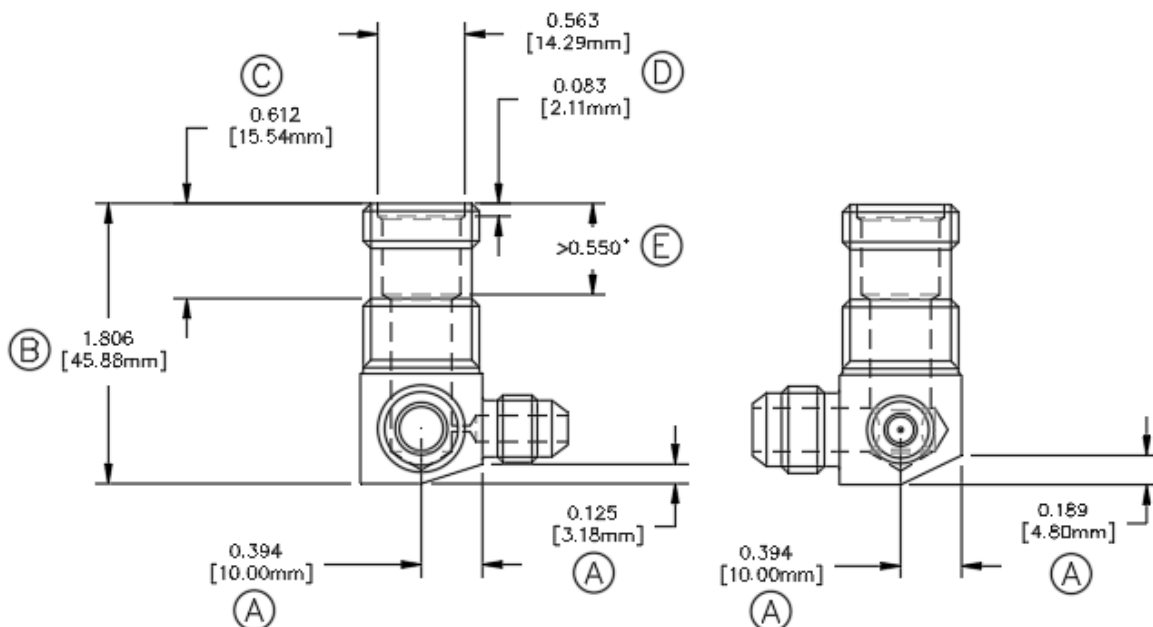
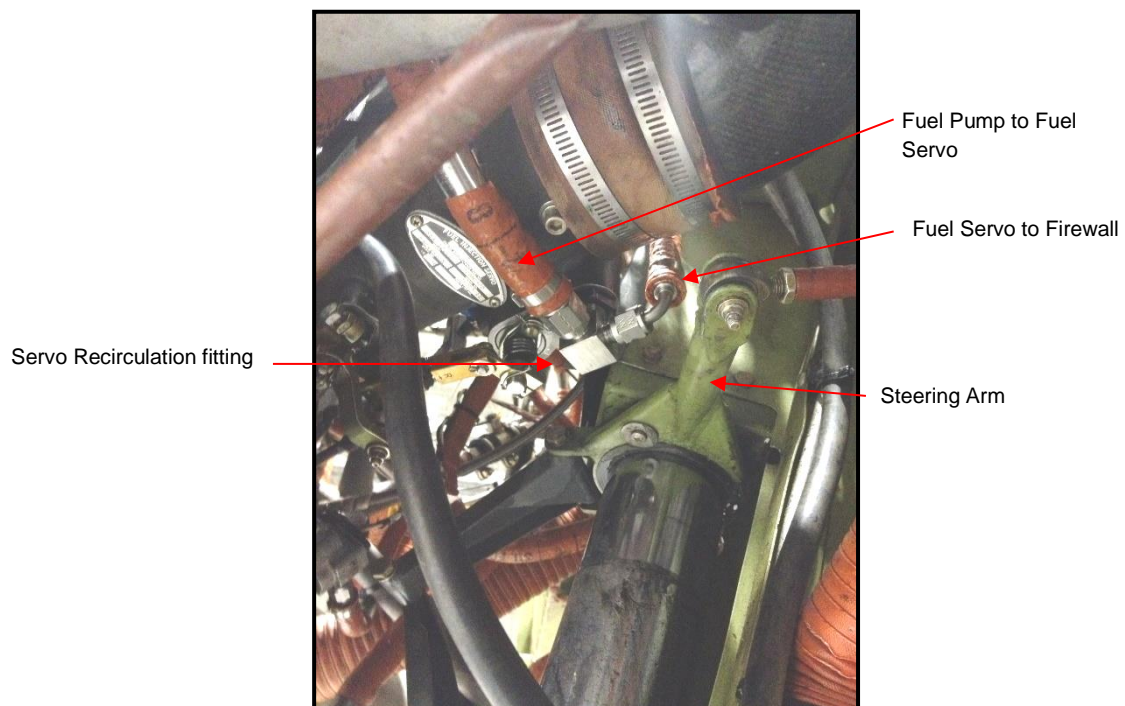

Figure 1: Fitting Modification
Figure 3: GA8 Servo Recirculation – installation.
6. Using appropriate austenitic stainless steel machining tools carry out the following alterations to the fitting as shown in Figure 1.
- A. Chamfer the corners of the fitting to the dimensions shown as (A). If this step results in sufficient clearance, then steps B through E may be omitted.
- B. Shorten the fitting approx. 0.025" to the dimension shown as (B).
- C. Machine off approx. 0.125" of the thread where the nut is installed so that the plain portion for the O-ring is to the dimension shown as (C).
- D. Using a standard 118° Ø9/16 drill, counterbore the filter hole 0.083" deep as shown as (D). Break the sharp edge.
- E. Ensure the filter "cup" depth is greater than 0.550" as shown as (E). If the depth is insufficient, machine or drill the hole using a 0.504 [12.80mm] drill to a depth of 0.587 [14.91mm].
7. Reinstall the filter, spring O-rings, fitting and reconnect hoses as shown in Figure 3. Torque the locking nut to 25-45 in.lb and lockwire. Carry out an engine ground run to check for leaks.
8. Remove the fitted Servo Recirculation fitting P/N: GA8-282063-031 (refer Figure 3) and replace it with the Servo Recirculation – Compact fitting P/N: GA8-282063-131 in accordance with GA8 Service Manual Section 28-00-10.
11. Reconnect hoses as shown in Figure 3. Torque the locking nut to 25-45 in.lb and lockwire.